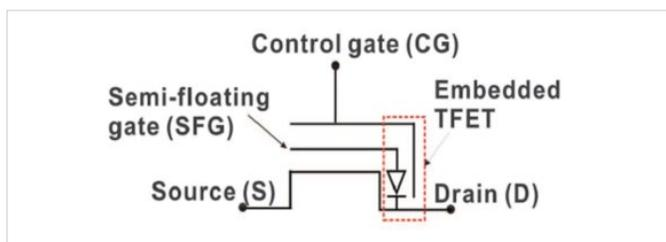

Figure 5: Semi-floating gate memory cell.
New types of transistor technology are emerging and being used with flash memory. **Figure 5** shows a semi-floating gate (SFG) transistor. A p-n junction diode between the floating gate (FG) and drain makes the FG semi-floating. The transistor uses an embedded tunneling field-effect transistor for charging and discharging the semi-floating gate. This transistor operates at low voltages (≤ 2.0 V), with a large threshold voltage window of 3.1 V, and can achieve ultra-high-speed writing operations (on time scales of ~ 1 ns). Therefore, fast pulsing of < 10 ns is needed to test this device. This capability requires using a function generator to achieve the pulse width.